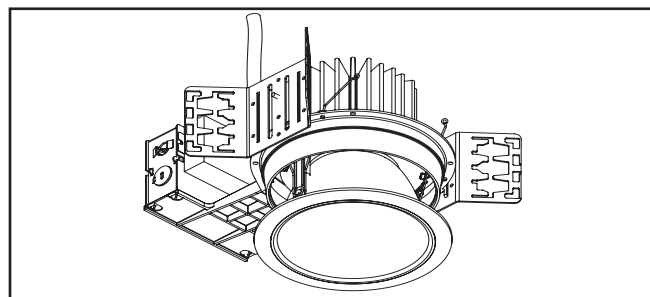

Figure 9
10. Install the LED engine and trim assembly by inserting the torsion springs into the spring receivers located inside the housing (Figure 9.).